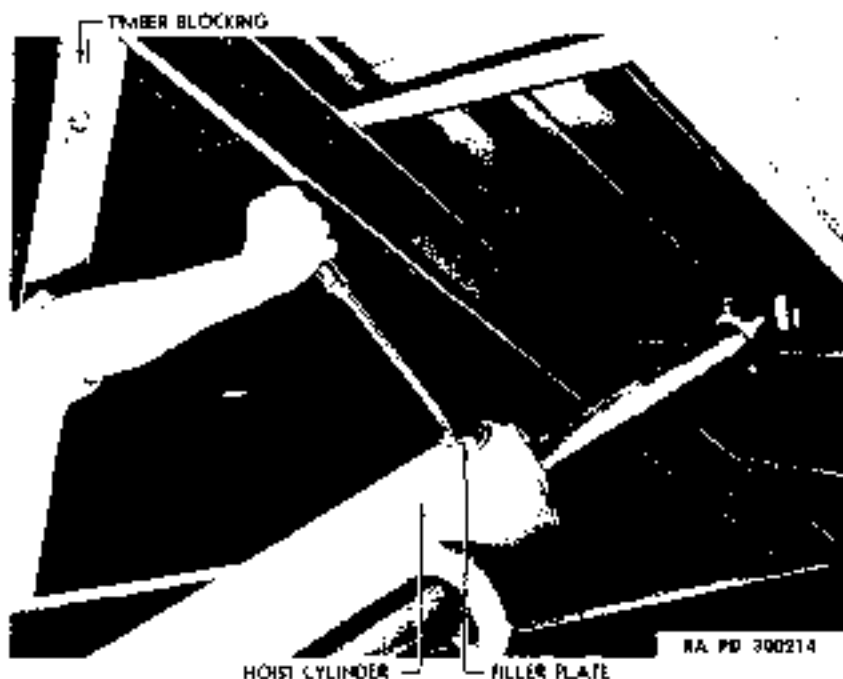

Figure 128—Timber Blocking
a. Before attempting to make any inspection or adjustment to the body or operating mechanism while body is raised, make sure the body is adequately supported by suitable blocking (fig. 128).
(1) Tighten bracket bolts holding subframe to vehicle frame, also body guide bracket bolts.